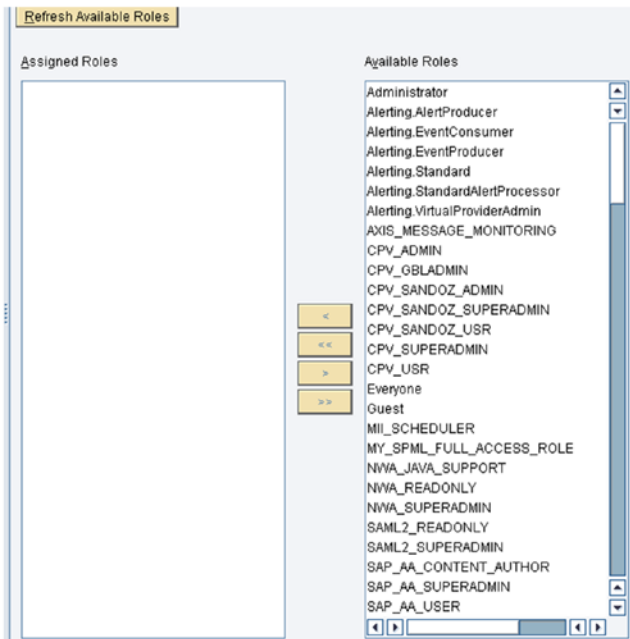

Figure 7-102. Available security roles
9. Add roles. See Figure 7-102.